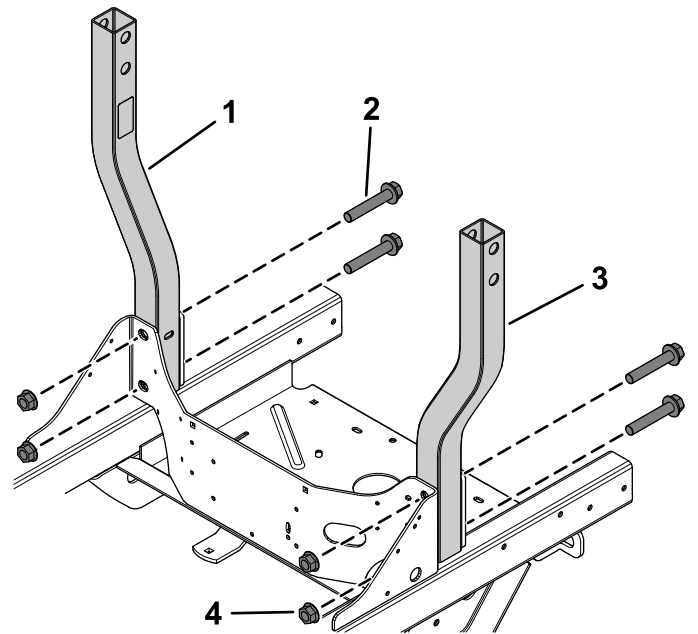

Figure 1
1. Loosely secure the lower roll bar assemblies onto the mower using 2 flange-head bolts (5/8 x 3-1/2 inches) and 2 locknuts (5/8 inch) on each side (Figure 1).